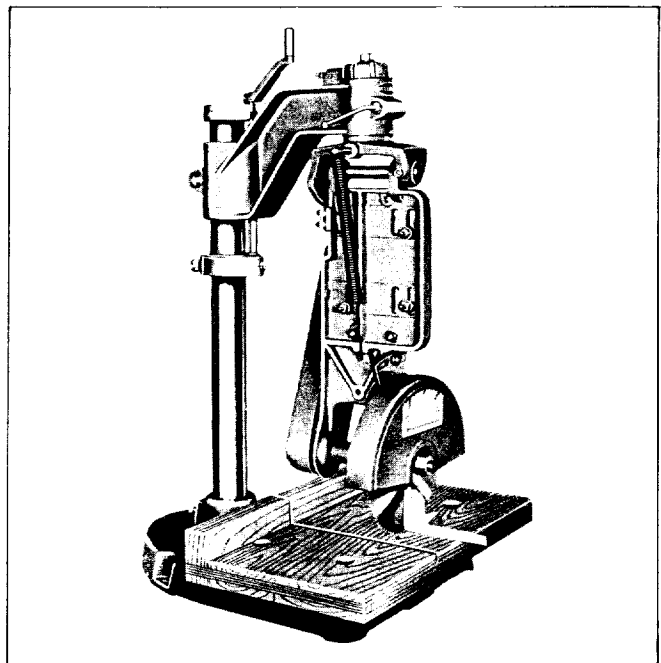

FIGURE 3
Attach the spring to tool by placing the loop end of spring in the groove of the stud, No. 11, with the hook on the opposite end pointing toward the swing arm. (See Fig. 3.) Pull the **swing arm** toward you and engage the hook in the opening provided.
5. Place the square on the table again keeping one leg on the table parallel with the saw arbor. (See Fig. 3.) Square the table to the saw blade in same manner as before.
Ripping and dado cuts (maximum one inch width) are made differently than cross-cutting and miter cuts in that the blade remains stationary and the work is advanced into it. Elevate blade to clear table, swing it to vertical position and securely engage the swing index pin. According to the width of stock to be cut rotate the swing arm 90° and engage the index pin on top of the head. For wide cuts rotate swing arm so that saw blade is farthest from column, see Fig. 3. For narrow cuts rotate arm in the opposite direction. Always re-lock yoke handle after indexing. Establish width of cut to be made by measuring from the work stop to the **nearest** side of a set tooth on the blade. Be sure and keep the work stop parallel to the saw blade. **After** the table is set, **slowly** lower the revolving blade into the table to establish point clearance for teeth. Blade may be elevated slightly as long as it enters the table 1/16 minimum.